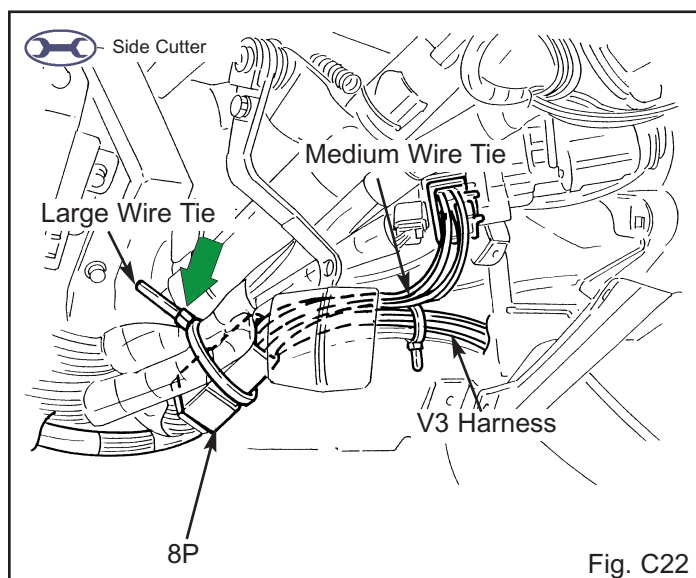

Fig. C22
40. Secure the 8P connector and V3 harness to the vehicle's harness with one large wire tie. (Fig. C22)